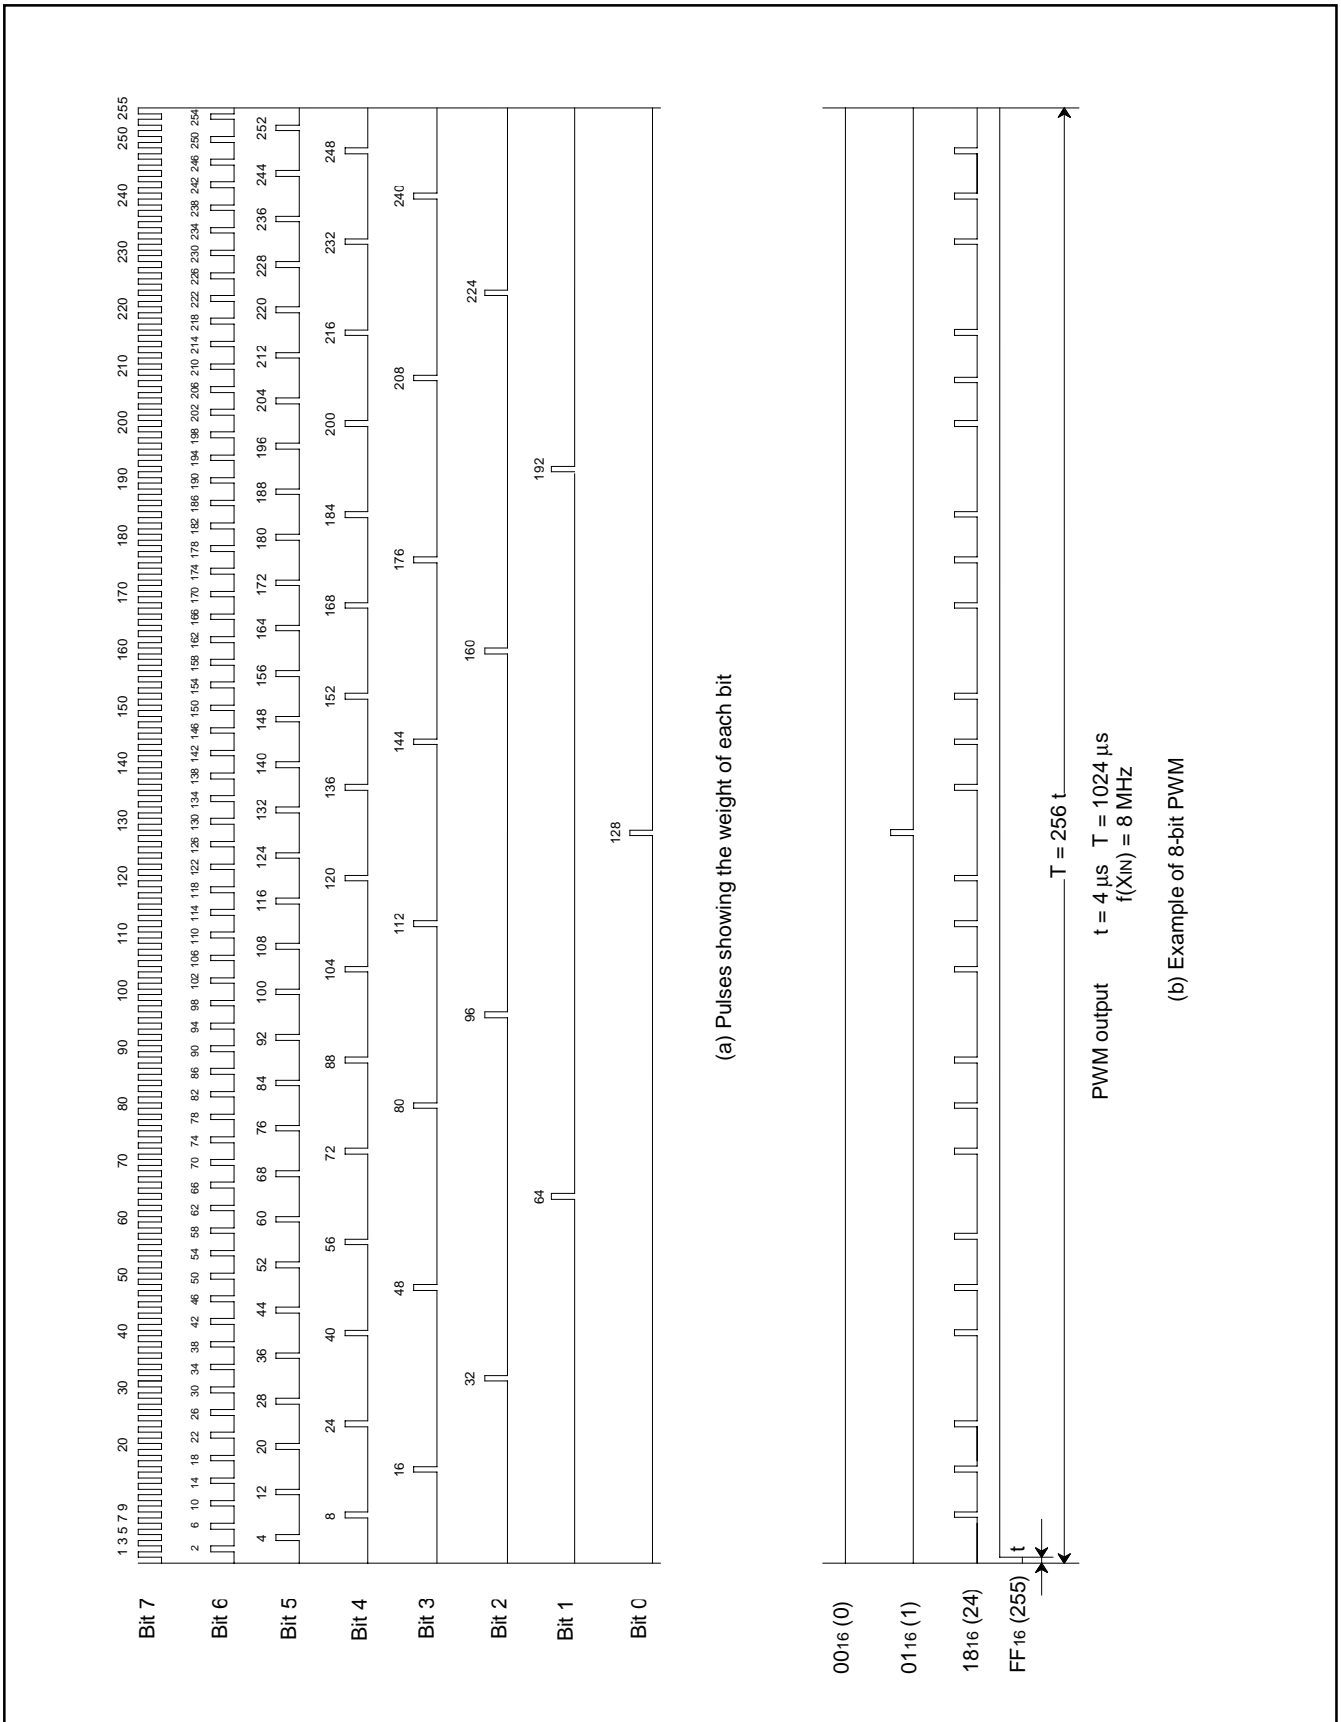

Fig. 8.7.2 PWM Timing
Figure 8.7.2 shows the 8-bit PWM timing. One cycle (T) is composed of 256 (2⁸) segments. The 8 kinds of pulses, relative to the weight of each bit (bits 0 to 7), are output inside the circuit during 1 cycle. Refer to Figure 8.7.2 (a). The 8-bit PWM outputs waveform which is the logical sum (OR) of pulses corresponding to the contents of bits 0 to 7 of the 8-bit PWM register. Several examples are shown in Figure 8.7.2 (b). 256 kinds of output (HIGH area: 0/256 to 255/256) are selected by changing the contents of the PWM register. A length of entirely HIGH output cannot be output, i.e. 256/256.